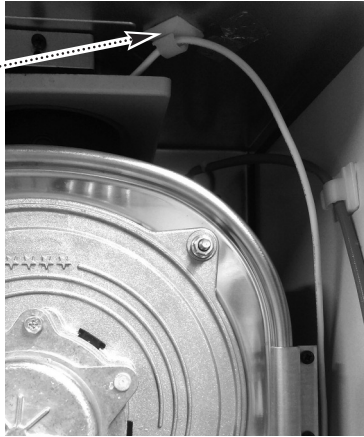

Fig. 9
17. Using the wipe provided clean an area on the inner face of the top panel. Fix one of the self adhesive routing clips to the panel (Fig. 9).